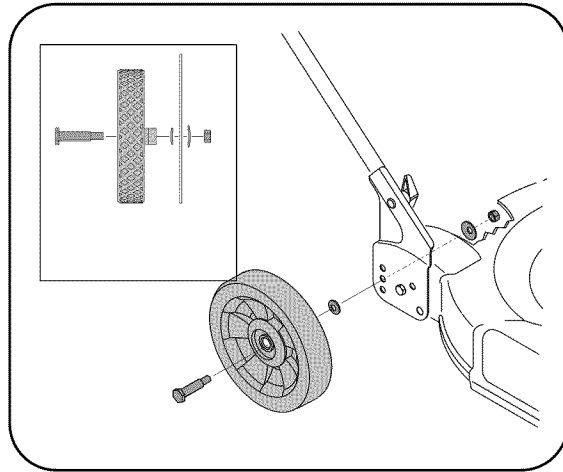
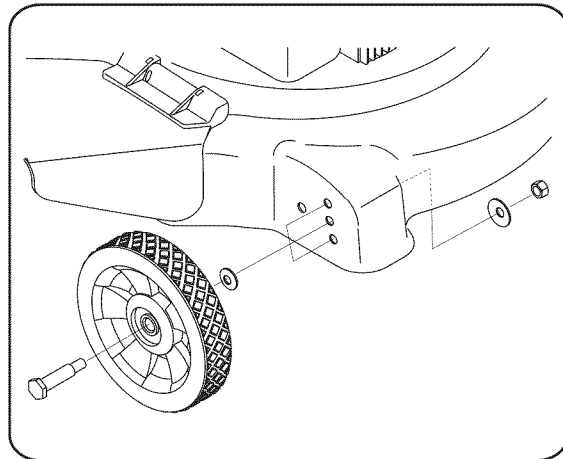

Figure 6
Figure 7
6. If your wheels are not assembled, install as follows using Figure 6 and 7:
- a. Using hardware from hardware pack, secure the rear wheels to the deck as shown in Figure 6 and front wheels as shown in Figure 7. The small cupped washer should be installed with the cupped side of washer towards the deck.